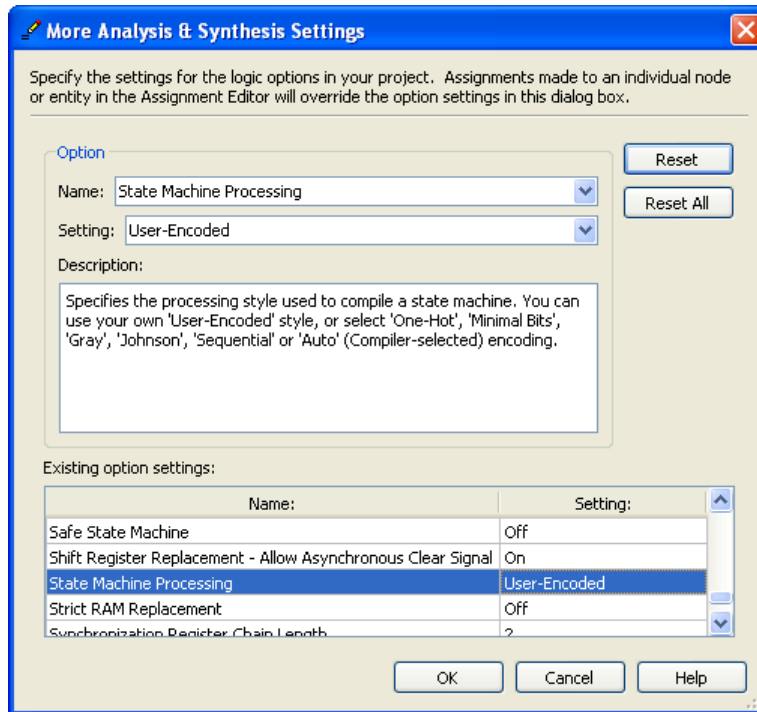

Figure 4: Specifying the state assignment method in Quartus.
3. Before compiling your code it is necessary to explicitly tell the Synthesis tool in Quartus that you wish to have the finite state machine implemented using the state assignment specified in your Verilog code. If you do not explicitly give this setting to Quartus, the Synthesis tool will automatically use a state assignment of its own choosing, and it will ignore the state codes specified in your Verilog code. To make this setting, choose **Assignments > Settings** in Quartus, and click on the **Compiler Settings** item on the left side of the window, then click on the **Advanced Settings (Synthesis)** button. As indicated in Figure 4, change the parameter **State Machine Processing** to the setting **User-Encoded**.